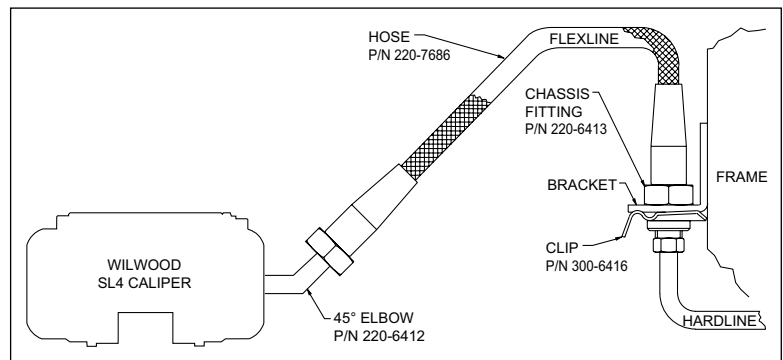

Figure 4. Brake Line Diagram
- Remove the caliper center bridge pad retainer bolt, nut, and tube from the caliper. Insert the brake pads (13) into the caliper, with the friction material facing the rotor, as shown in Photo 4. Check that the top of the brake pad is flush with the outside diameter of the rotor, Photo 5. If not, adjust by adding or subtracting shims (11) between the caliper and the bracket. After the caliper pad height is set, reinstall the center bridge pad retainer tube, bolt, and lock nut. The lock nut should be snug without play in the bolt or tube. Be cautious not to over tighten. Torque the caliper lock nuts (8) to 30 ft-lb.
- **NOTE:** The caliper in this brake kit utilizes a 1/8-27 NPT pipe thread inlet (use PTFE tape on pipe threads of adapter fitting for proper sealing to caliper). OEM rubber brake hoses generally cannot be adapted to Wilwood calipers. Wilwood offers a brake flex line hose kit to fit this application, order P/N 220-9101, Figure 4. Hose kit includes hoses, fittings, etc., all in one package for this application. **Carefully route hoses to prevent contact with moving suspension, brake or wheel components. NOTE:** Wilwood hose kits are designed for use in many different vehicle applications and it is the installer's responsibility to properly route and ensure adequate clearance and retention for brake hose components.